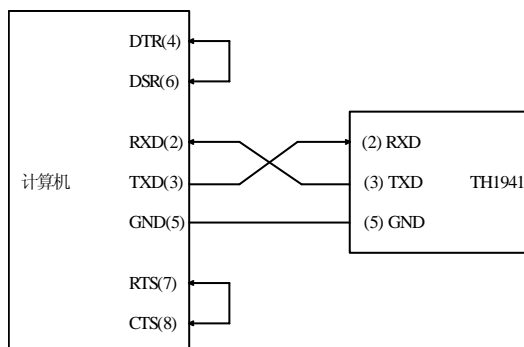

Figure 5-1 RS-232 connection
(1). The connection of RS232 and computer is shown as figure 5-1: